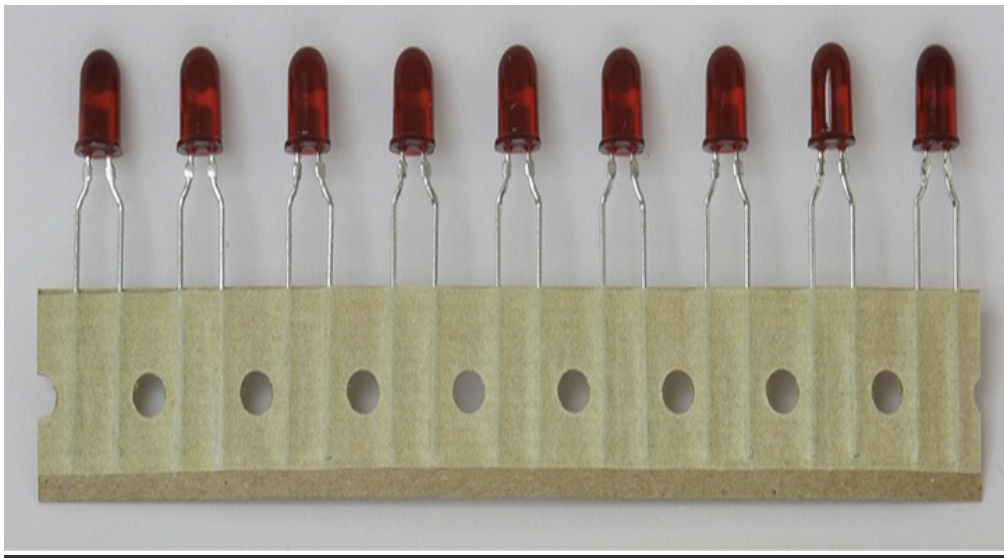

FIGURE 6.21 LEDs bought in tape form are generally better matched in terms of turn-on voltages than those bought in a bag or off the shelf.
In general, if you are going to parallel LEDs together, first they should be of the same color emission. Second, they should be matched, which, for example, can be done by purchasing the LEDs in “tape” form. See Figure 6-21.
- If you need to have matched turn-on voltage LEDs, purchase them on a tape, as shown in Figure 6-21.